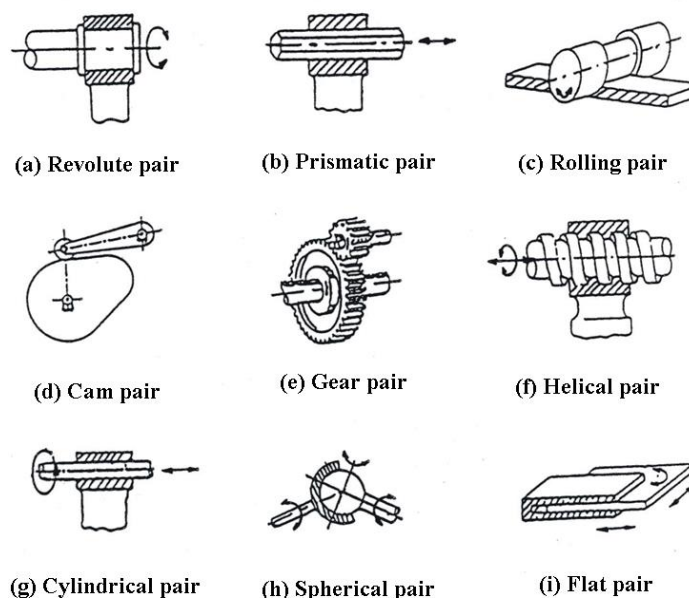

Fig. 1. The kinematic pairs of mechanism
1. There are 9 kinematic pairs shown in Fig. 1. (a). What kinematic pairs have 1 degrees of freedom? (b). What kinematic pairs have 2 degrees of freedom? and (c). What kinematic pairs have 3 degrees of freedom? (15%)